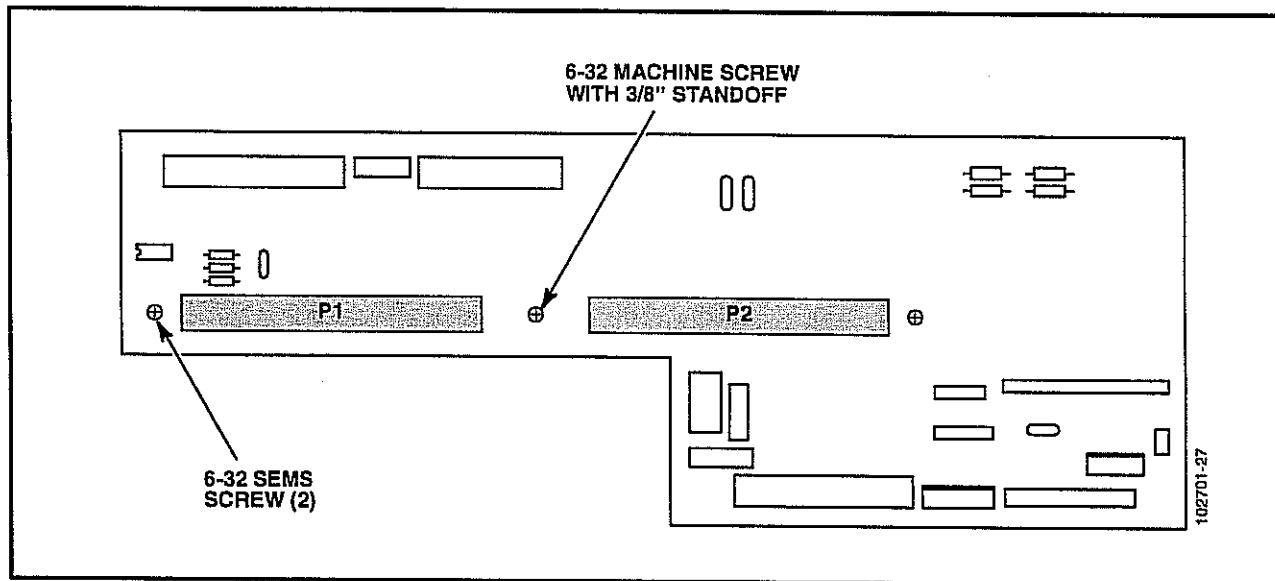

Figure 5-31. Mother Board.
To remove or install the mother board on the lower module, see Figure 5-31 and proceed as follows.
5. Remove the two M3 x 8 Sems screws, two M3 flat washers, M3 x 16 machine screw and center standoff that fasten the mother board assembly to the bottom of the lower module (see Figure 5-31).